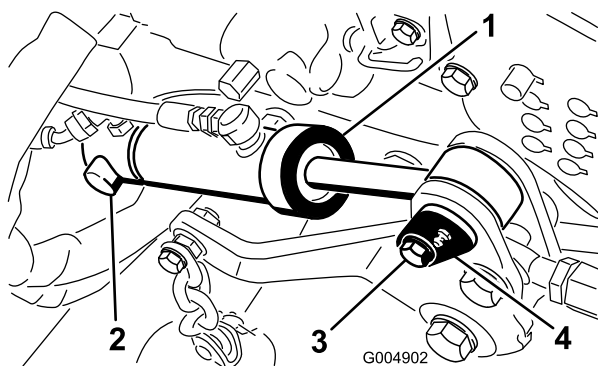

Figure 12
9. Install the rear of the deck lift cylinder onto the pivot pin and secure with the retaining ring (Figure 12).
10. Secure the front of the lift cylinder to the mower frame with the cylinder pin and screw (Figure 12).